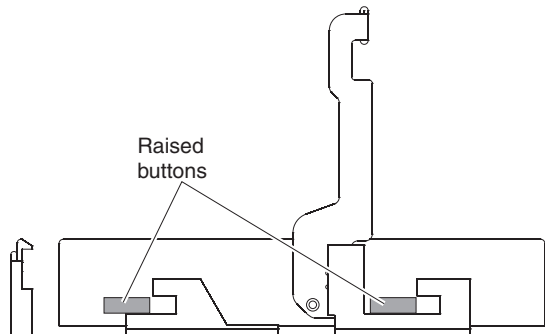

Figure 48. Aligning the drive
- b. Align the two raised buttons on each side over the matching gap in the drive channel on the drawer, as shown in Figure 48.